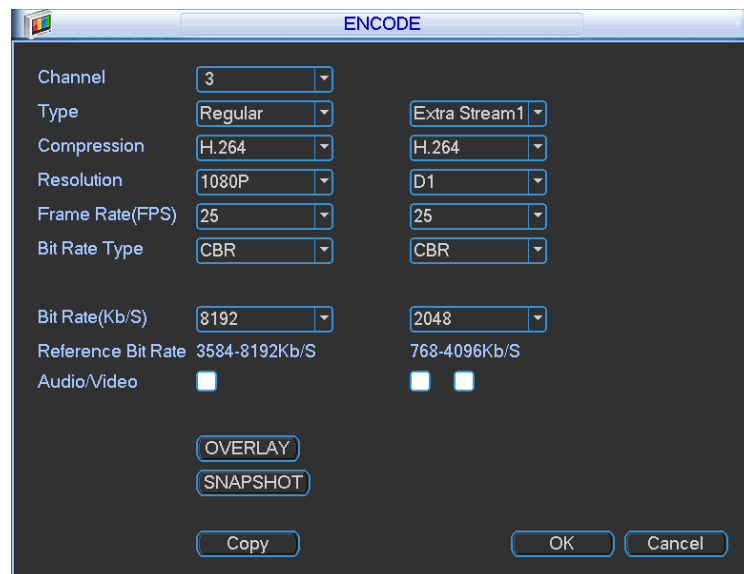

Figure 5-33
From Main menu->Setting->Encode, you can see the following interface. See Figure 5-33.
From Main menu->Setting->Encode, you can go to encode interface. See Figure 5-33.
- g) Set motion detect record channel, period and the record type shall be motion detect (MD). Please refer to chapter 5.6.2.
- a) From Main menu->Setting->Encode, you can go to encode interface. See Figure 5-33.